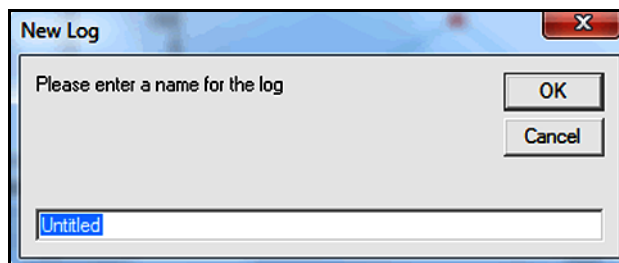

Figure 77: Log Name Dialog Box
- f. Enter a name for the log file in the dialog box shown in *Figure 77* below (“Untitled” is used here). Click [OK] button.